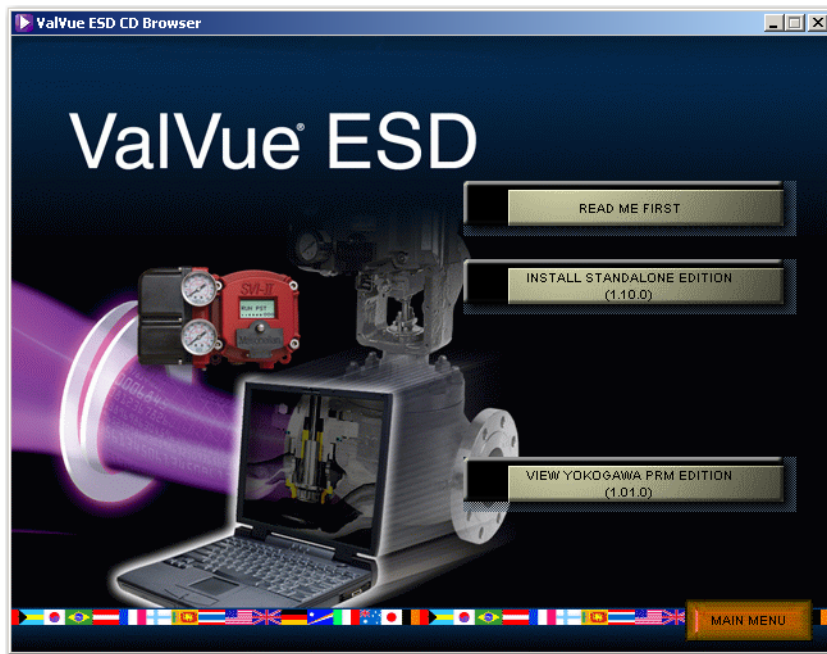

Figure 9 Software Choice
2. Select **INSTALL SOFTWARE** and a screen appears (Figure 9).